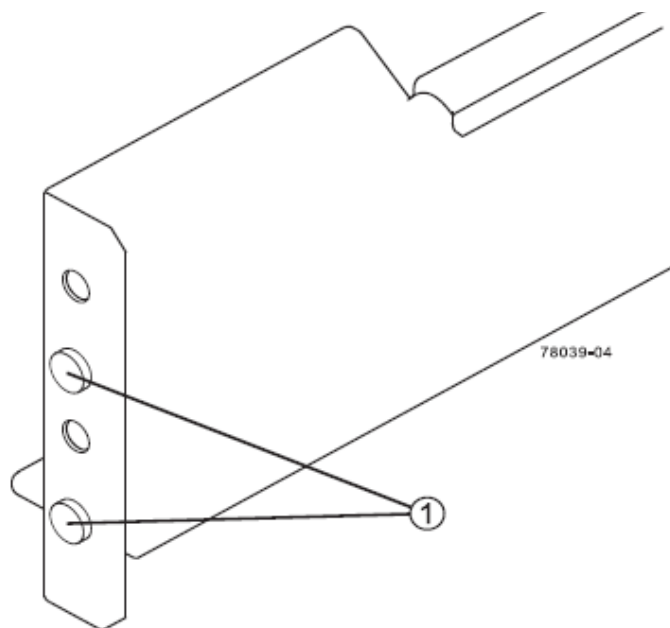

Figure 2-27 Alignment Spacers on the IS2224 Mounting Rail
Figure 2-27 shows an example (1) of the alignment spacers on an IS2224 mounting rail.